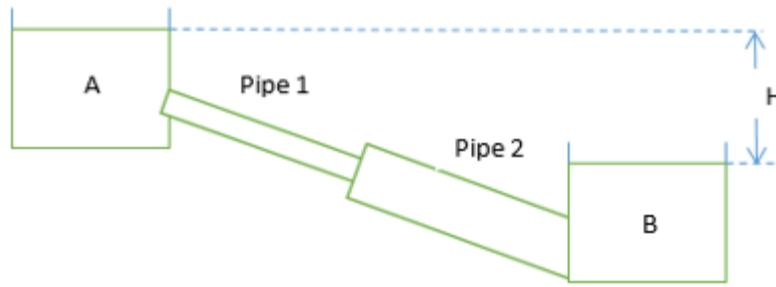

Figure B2(c) / Rajah B2(c)
- (c) Figure B2(c) shows water flow at a rate of $0.025 \text{ m}^3/\text{s}$ from reservoir A to reservoir B through two pipes. The friction factor for pipe 1 and pipe 2 is 0.0058. Calculate the difference of head, H from the water surface between the reservoirs. (Consider all the types of head loss).